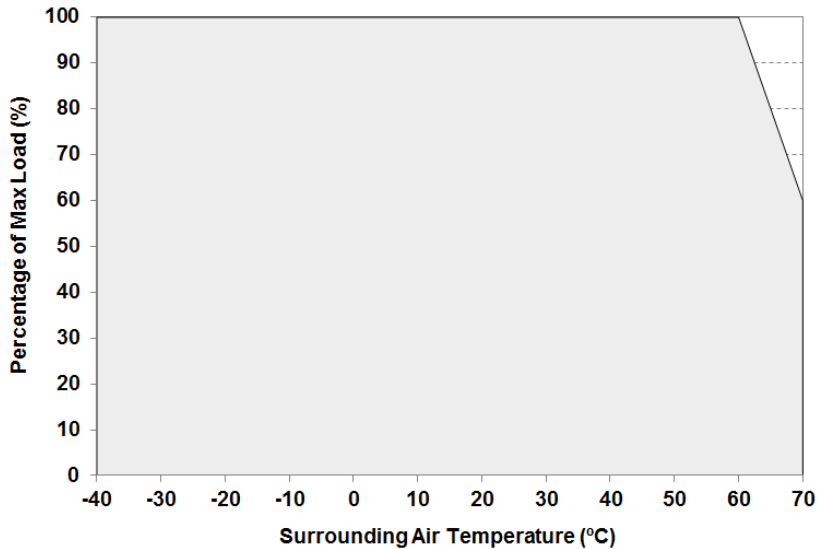

Fig. 1 De-rating for All Mounting Orientation (All Models)
\* For power de-rating from 60°C to 70°C, see power de-rating at Fig.1 on page 10.
1. Power supply components may degrade, or be damaged, when the power supply is continuously used outside the shaded region, refer to the graph shown in Fig. 1.
- If the device is continuously operating outside the shaded region shown in Fig. 1. The device may be damaged or degraded.